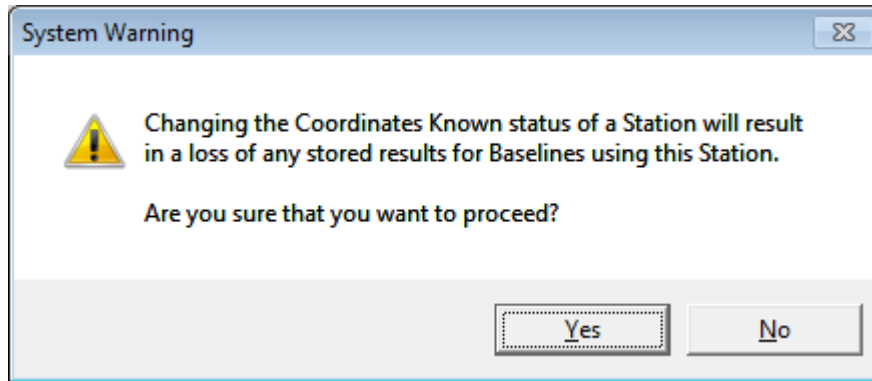

Figure 17: Use a Single Point Position Coordinates confirmation.
- **Coordinates Known:** WGS84 coordinates are known for this stations antenna location, so use them. If the WGS84 coordinates are known and you select “Use Single Point Position Coordinates” a confirmation stating “Changing the Coordinates Known status of a Station will result in a loss of any stored results for Baselines using this Station” will appear (Figure 17).